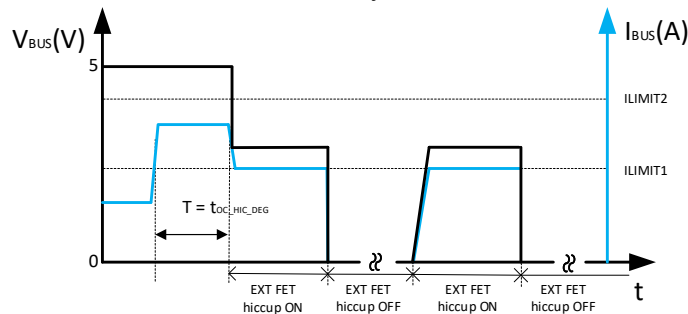

图 10-19. Two Level Current Limit Methodology with ext MOSFET Case 2
- Case 2: If the load current I_{BUS} is in the range $I_{LIMIT2} > I_{BUS} > I_{LIMIT1}$ and the duration $> t_{OC_HIC_DEG}$, the external MOSFET will current limit to I_{LIMIT1} , then enter hiccup mode with 2 ms of on-time and 263 ms of off-time, as shown in 图 10-19. When the load current decreases below I_{LIMIT1} and continues $> t_{OC_HIC_RST}$, the external MOSFET will resume always on.